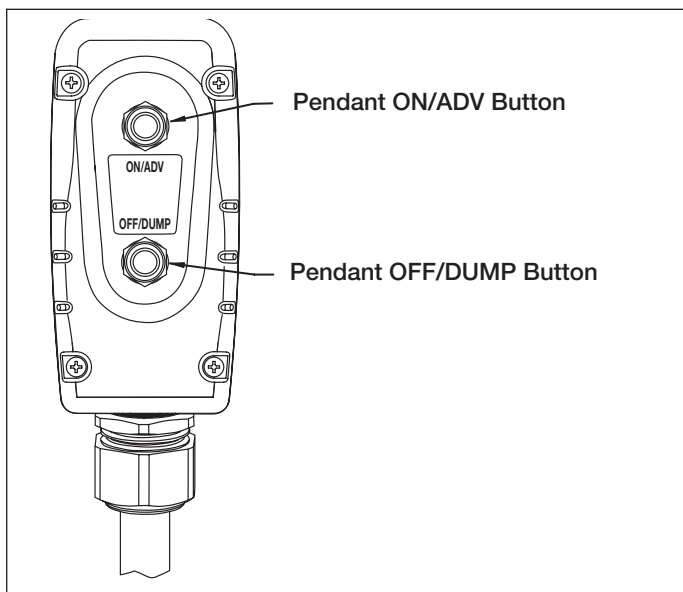

Figure 7, Pendant Buttons
### 5.2 Pendant Operation (See Figure 7)
5. To start the pump, press the "ON/ADV" button on the pendant. See Figure 7. The motor will start automatically, and the wrench will begin to advance. The wrench will continue advancing for as long as the button is held down.